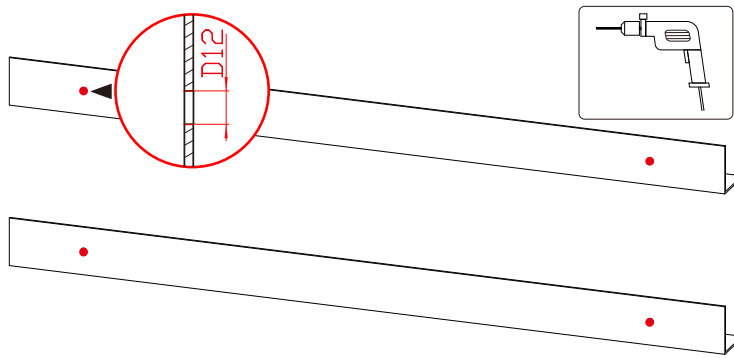

Figure3-14 Drill holes (unit: mm)
- Step 3 Use the electric drill to drill holes on the bracket according to the marked position. The drilling diameter is $\Phi 12$ mm, as shown in Figure3-14.